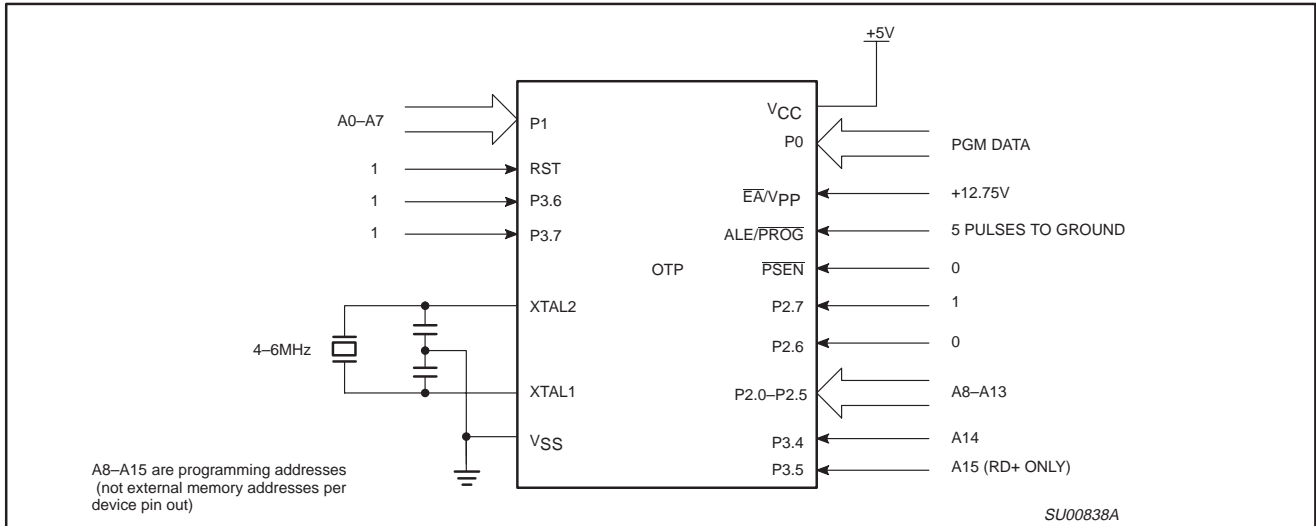
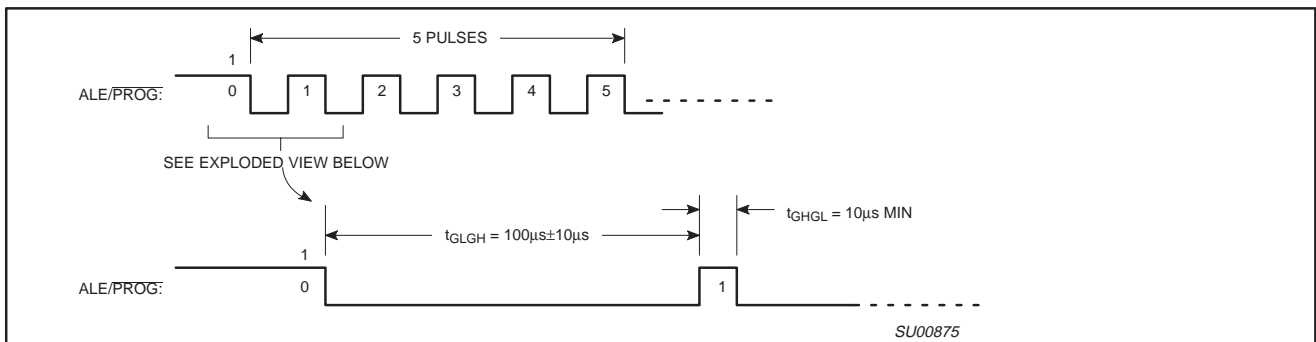
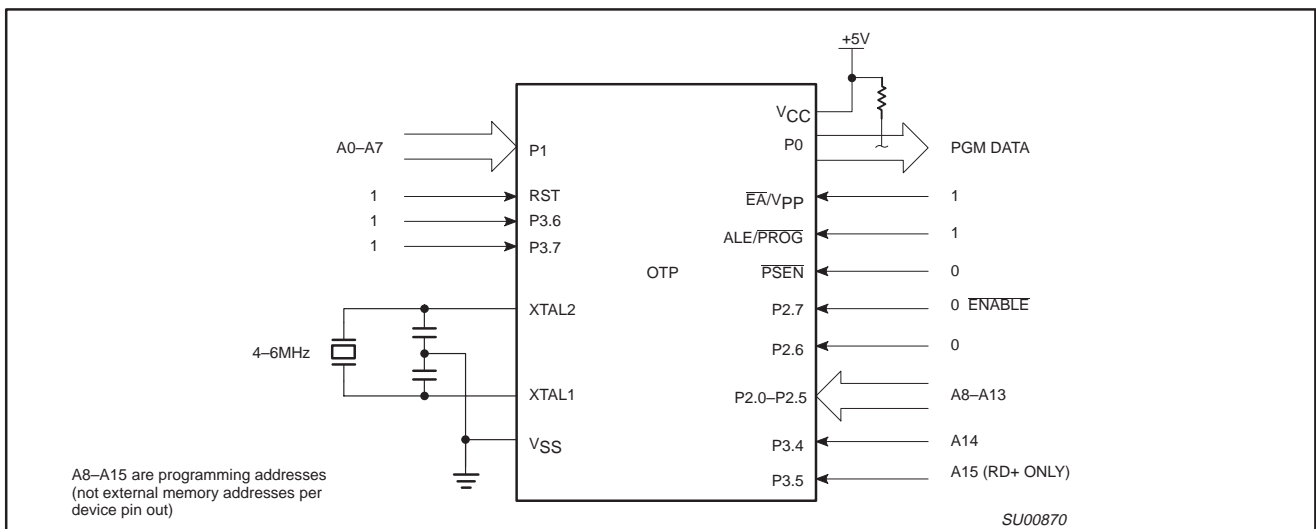

Figure 41. Programming Configuration
Figure 42.  $\overline{\text{PROG}}$  Waveform
Figure 43. Program Verification
Table 9 shows the logic levels for reading the signature byte, and for programming the program memory, the encryption table, and the security bits. The circuit configuration and waveforms for quick-pulse programming are shown in Figures 41 and 42. Figure 43 shows the circuit configuration for normal program memory verification.
The setup for microcontroller quick-pulse programming is shown in Figure 41. Note that the device is running with a 4 to 6MHz oscillator. The reason the oscillator needs to be running is that the device is executing internal address and program data transfers.
The address of the EPROM location to be programmed is applied to ports 1 and 2, as shown in Figure 41. The code byte to be programmed into that location is applied to port 0. RST,  $\overline{PSEN}$  and pins of ports 2 and 3 specified in Table 9 are held at the 'Program Code Data' levels indicated in Table 9. The ALE/PROG is pulsed low 5 times as shown in Figure 42.
address of the program memory locations to be read is applied to ports 1 and 2 as shown in Figure 43. The other pins are held at the 'Verify Code Data' levels indicated in Table 9. The contents of the address location will be emitted on port 0. External pull-ups are required on port 0 for this operation.
- \* FOR PROGRAMMING CONFIGURATION SEE FIGURE 41.
FOR VERIFICATION CONDITIONS SEE FIGURE 43.